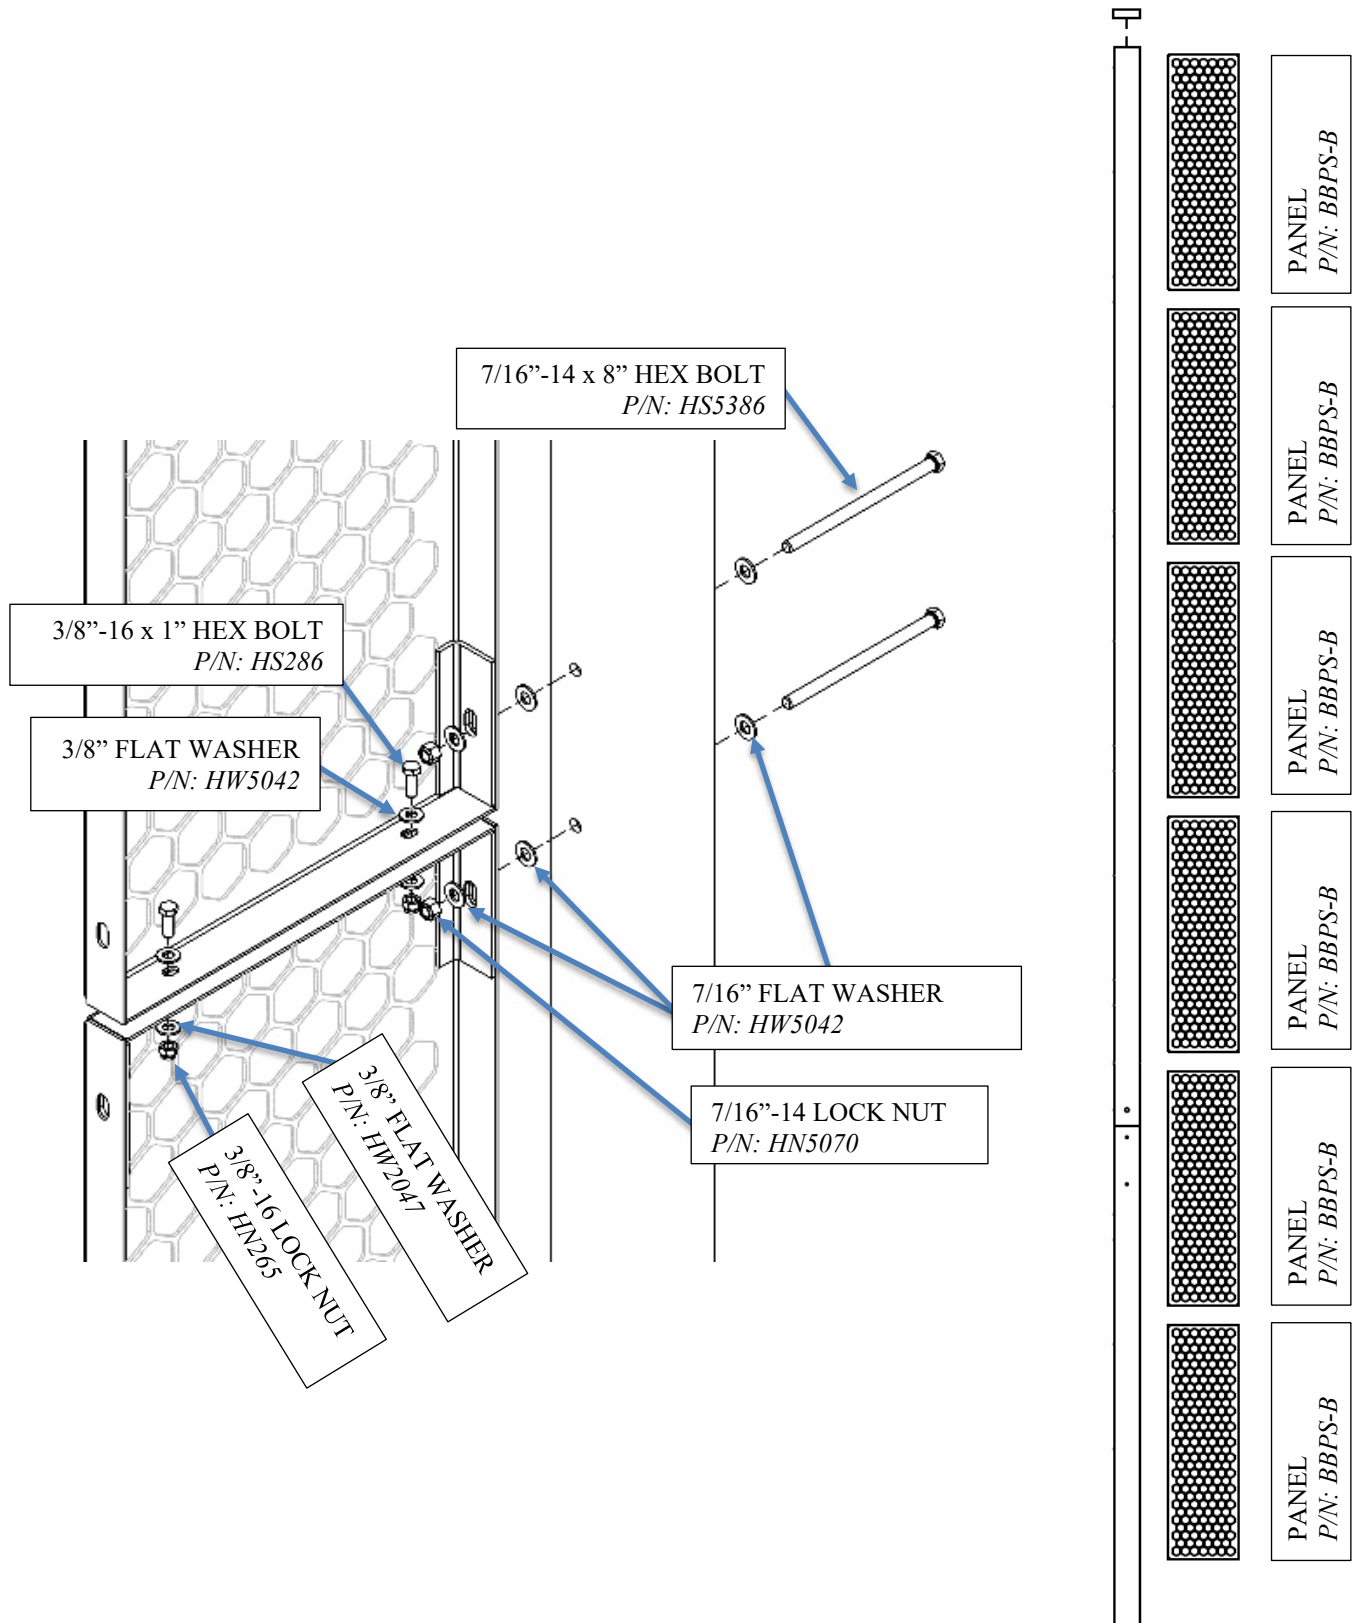

FIGURE: 7
1. Attach all the wing panels per figure 7. Orient the panels so the front side is facing the field. (back side of panels shown)